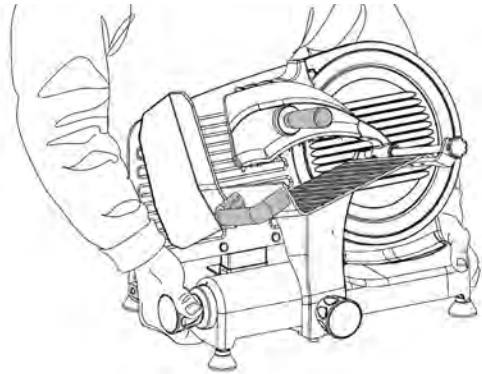

Figure 4. Use two hands to lift as shown.
- You will note that the slicer is equipped with a plexiglass control guard (16) on the food carriage (8). It is very important that it not be removed.
- To minimize accidental contact with the blade when the slicer is not in use or **when lifting the slicer**, always turn the thickness control knob (1) fully clockwise so that the thickness control plate (7) covers the edge of the blade.
- When lifting the slicer, position the body and hands as shown in Figure 4, to more uniformly distribute the weight of the slicer and to avoid contact with the blade or with lubricated parts.